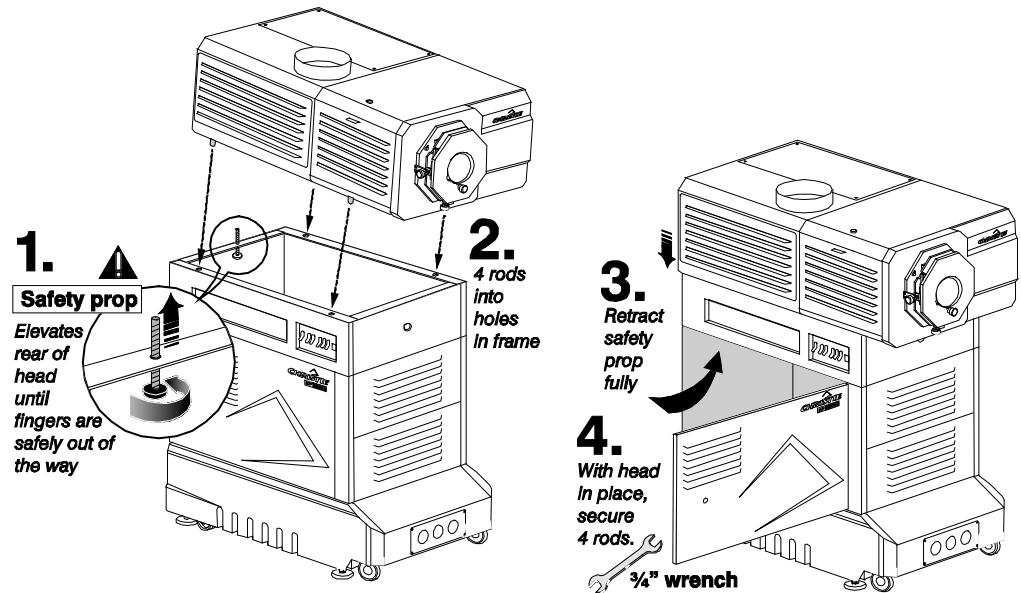

Figure 2.1. Assembling Projection Head with Pedestal
- 5-2)** Inside the pedestal, at the rear of the top frame, turn the knob to extend the safety prop above the pedestal frame—this "stop" will then elevate the rear of the projection head until fingers are safely out of the way. See Figure 2.1, Step 1.